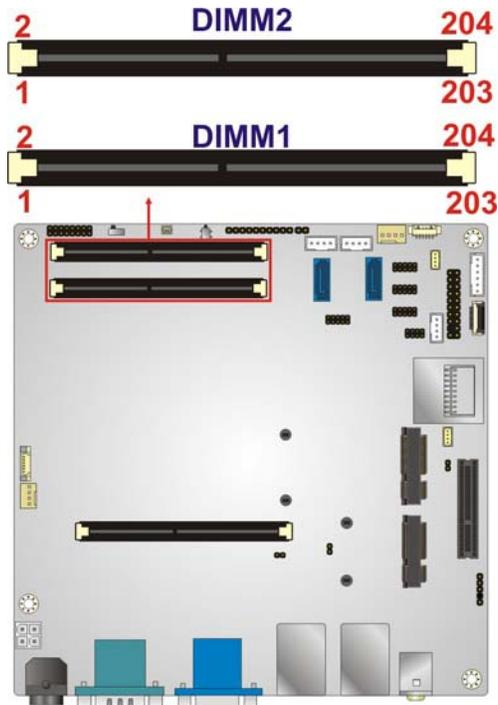

Figure 3-8: DDR3 SO-DIMM Slot Location
- CN Location:** See **Figure 3-8**